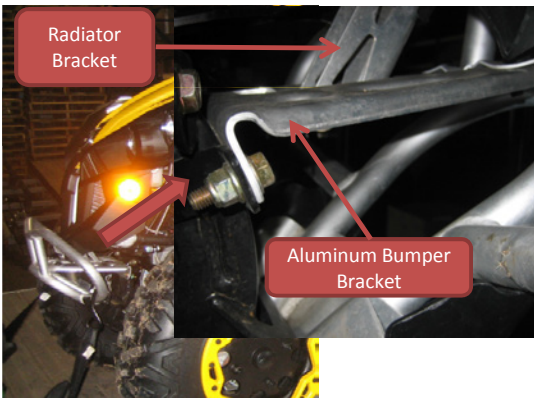
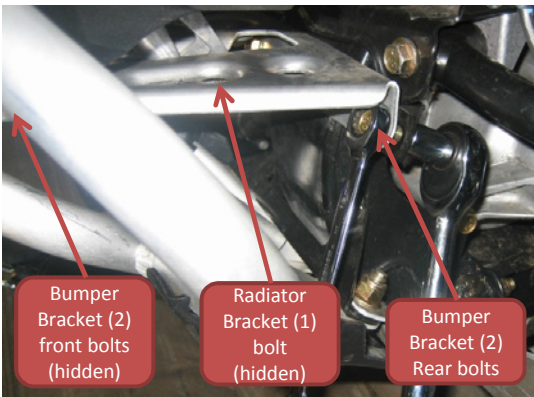

Figure 11
Figure 12
Step 3 - Remove aluminum bumper bracket and radiator bracket (Figure 11)
- Remove one (1) bolt that attaches radiator bracket to aluminum bumper
- Remove four (4) bolts that hold aluminum bumper bracket to bumper. (Figure 12 for bolt location)
- (2) located at front of aluminum bumper